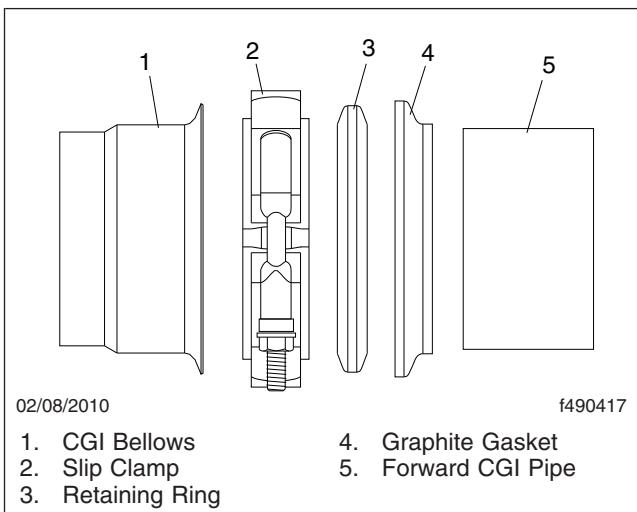

Fig. 10, Forward Facing Slip Clamp Installation
13. Install the slip clamp with the retaining ring and graphite gasket ring onto the forward CGI pipe. See Fig. 10 for proper installation.